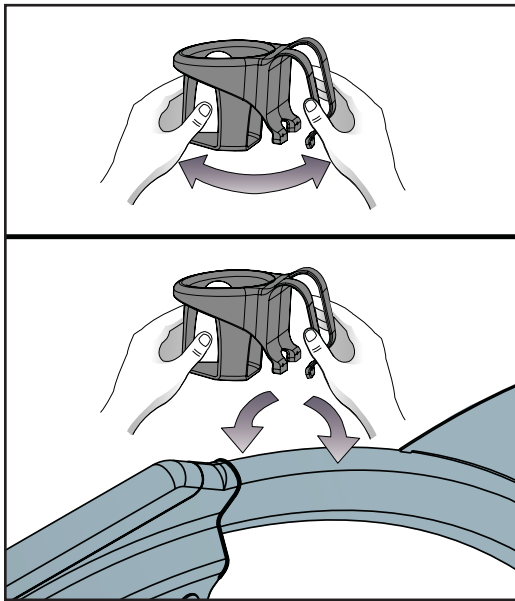

Figure 6
- A.** Hold the water bottle holder (#3) with two hands and gently pull outward and continue to pull (hold open) during step 7B. See Figure 6.
- B.** Place the water bottle holder (#3) over the frame with the larger side outside of the frame as shown in Figure 6.